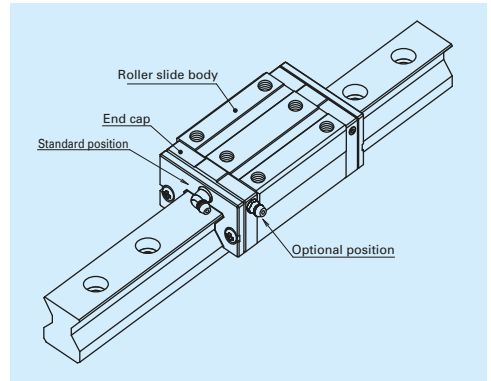

Fig. 12 Mounting position of lubrication accessories
- The standard position for grease fittings is at the end face of the roller slide, but we can mount them on the side of the end cap for as an option. (Fig. 12) Please consult NSK for the installation of grease or tube fittings to the roller slide body.